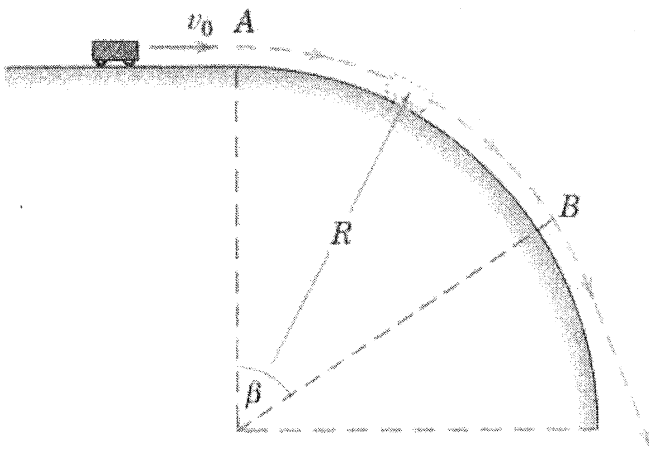

Figure Q5(c)
- c. A small vehicle enters the top A of the circular path with a horizontal velocity v_0 and gathers speed as it moves down the path as shown in figure Q5 (c). Determine an expression for the angle β which locates the point where the vehicle leaves the path and becomes a projectile.